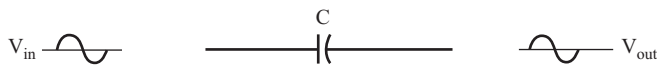

FIGURE 6.1
**1** An AC signal is continually changing, whether it is a pure sine wave or a complex signal made up of many sine waves. If such a signal is applied to one plate of a capacitor, it will be induced on the other plate. To express this another way, a capacitor will “pass” an AC signal, as illustrated in Figure 6.1.